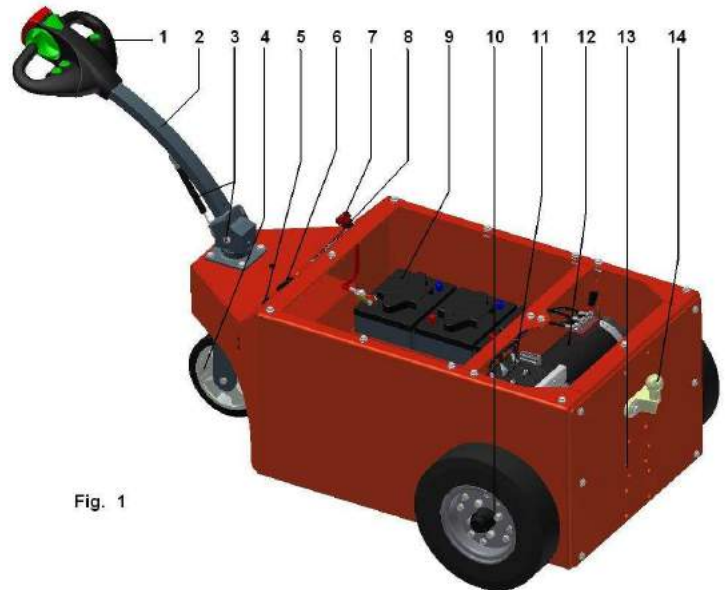

Fig. 1
5.3 Operation (see photo, fig. 1)
The ignition lock (5 fig. 1) is used to switch off the batteries, **always switch off the battery in case of maintenance to the Multi-Mover XXL.**